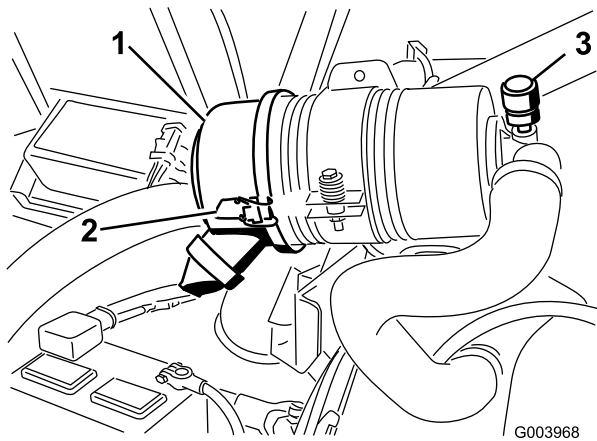

Figure 52
Service the air-cleaner filter only when the service indicator (Figure 52) requires it. Changing the air filter before it is necessary only increases the chance of dirt entering the engine when the filter is removed.
1. Release the latches securing the air-cleaner cover to the air-cleaner body (Figure 52).